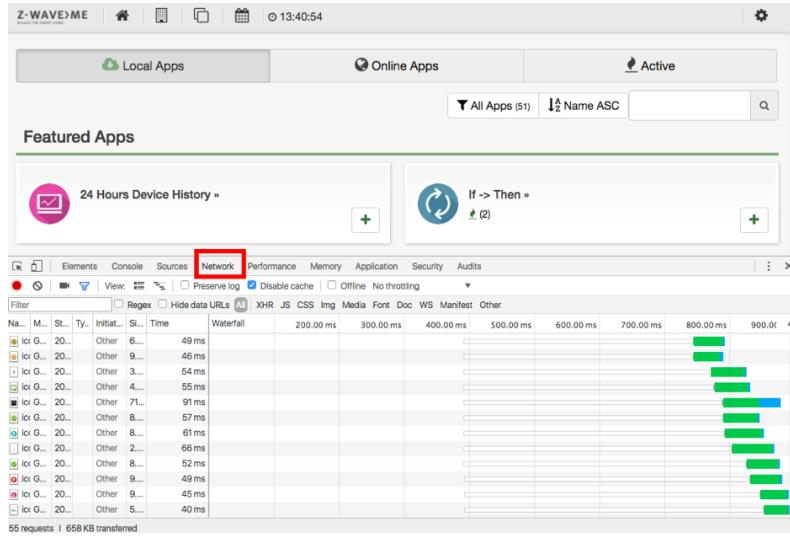

Figure 9.4: Web browser debug interface
1. Open the JavaScript Debug console. You find this option on the browsers menu under **View > Developer**. Figure 9.4 shows the web browser with debugger active.